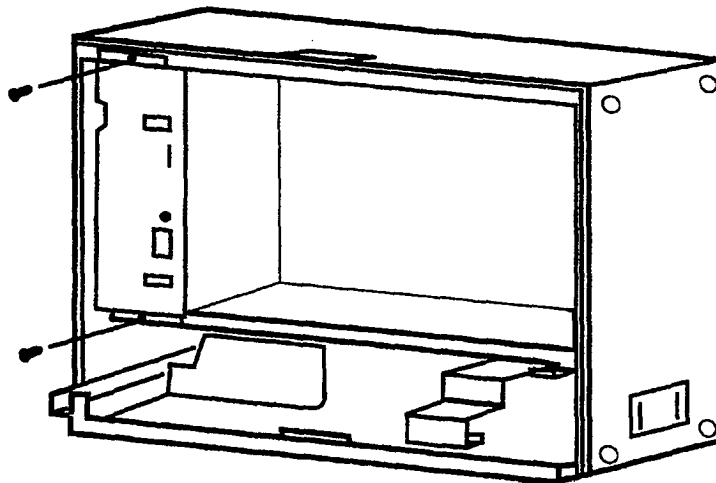

Figure 2-14 Installing the PSF-H-20 PSU in the KSU
1. Mount the PSF-H-20 PSU into the left slot of the KSU and secure using the two provided bolts. Refer to Figure 2-14 - Installing the PSF-H-20 PSU into the KSU.